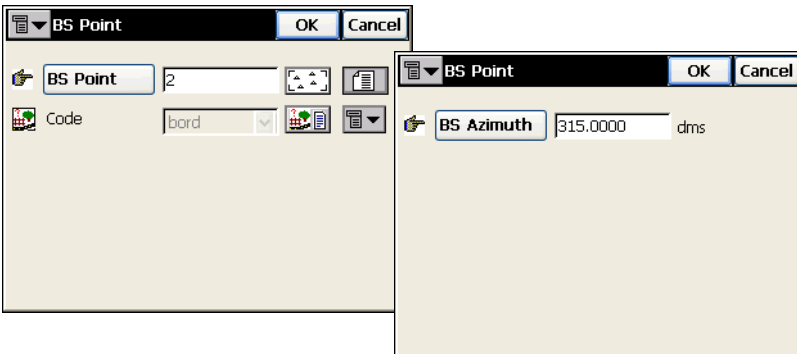

Figure 9-21. BS Point
- **BS Point**: displays the **BS Point** screen for entering the Backsight Point or Backsight Azimuth (Figure 9-21 on page 9-16). If a BS point has not been entered, an Azimuth is required. In this case, if an angle value is entered as *Angle Right*, *Angle Left*, or *Deflection*, this value will be considered as azimuth.